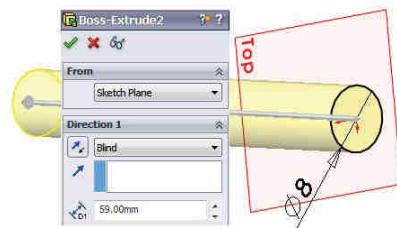

Fig. 2.40
**1 Trasare cerc  $\phi 8$ :** Comanda Sketch – Fig. 2.40 – plan Top.
**2 Extrudare cerc  $\phi 8$ :** comanda Extruded Boss/Base – Fig. 2.40 – Blind /  $\Delta D_1$  59 mm distanță /  .
**1 Sketching of the  $\phi 8$  circle:** The Sketch command – Fig. 2.40 – Top plane.
**2 Extrusion of the  $\phi 8$  circle:** the Extruded Boss/Base command - Fig. 2.40 – Blind /  $\Delta D_1$  59 mm distance /  .